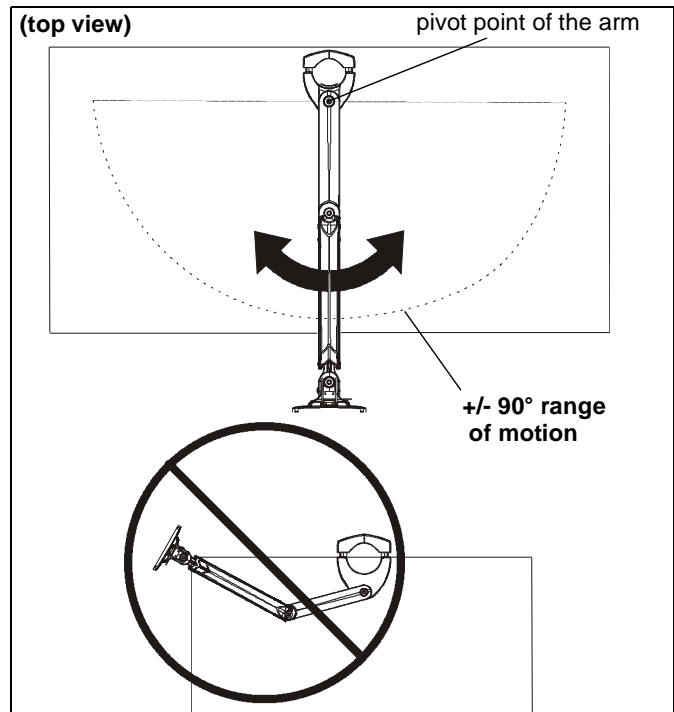

Figure 12
1. Adjust arm angle as desired up to 90° in either direction. (See Figure 12)